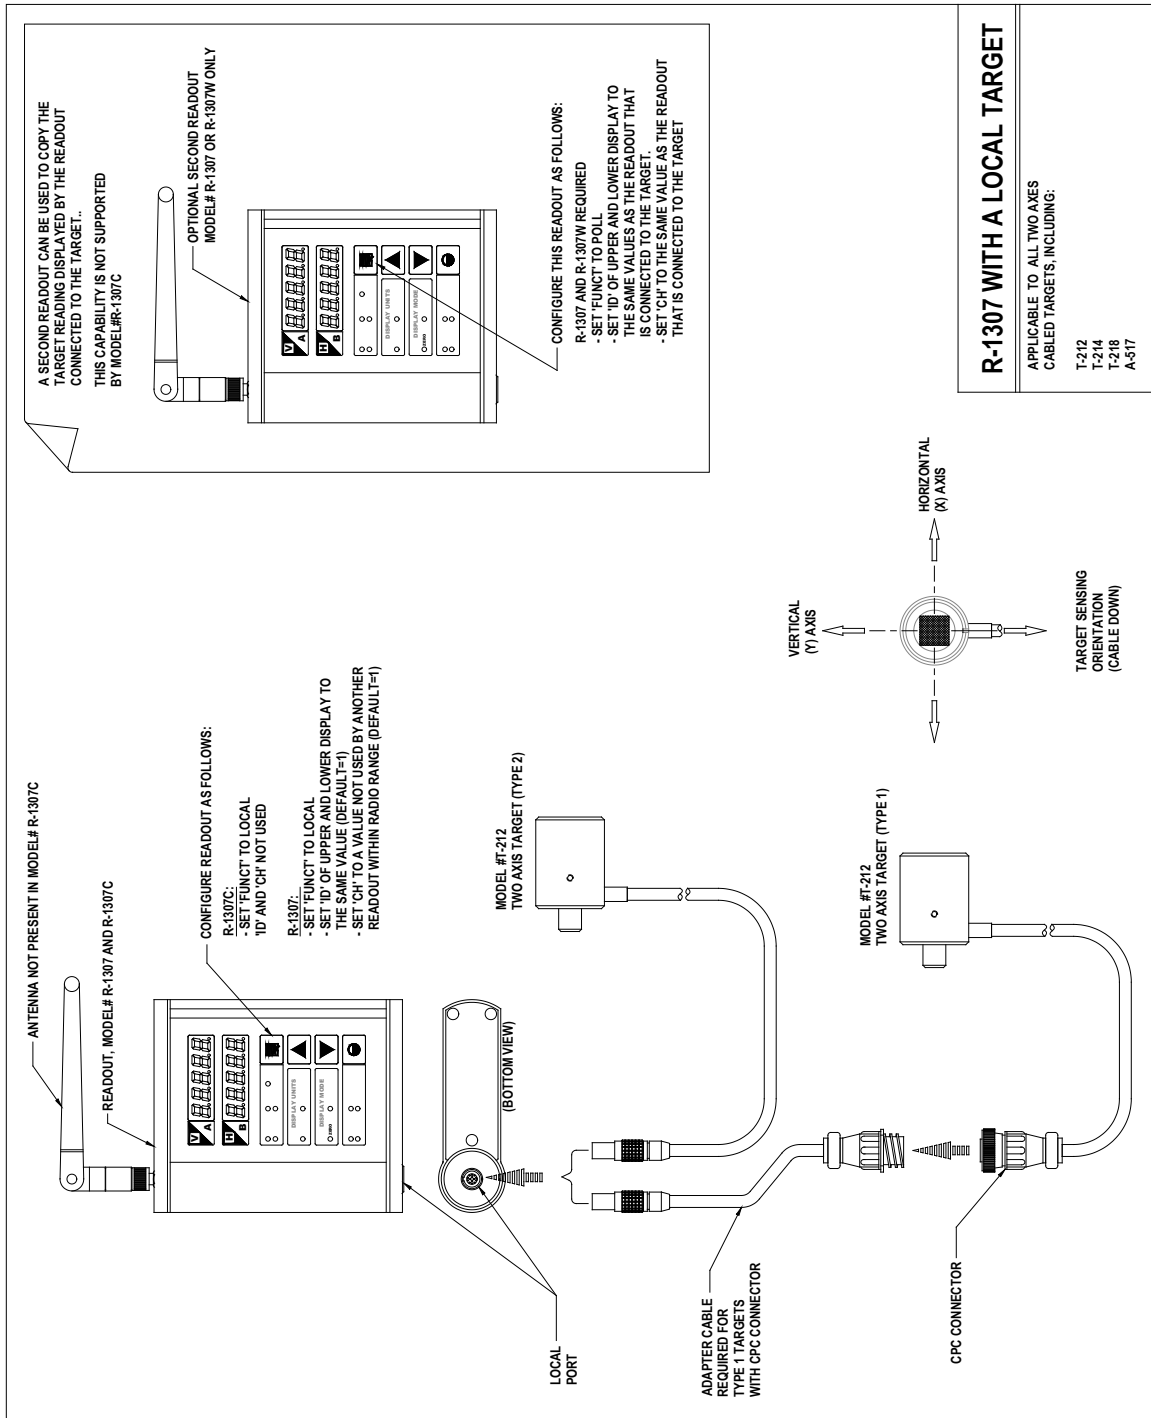

Figure 15 -- Connecting a Local Target to the R-1307
- 1. Connect the cabled target to the local port of the readout, as shown in Figure 15.**